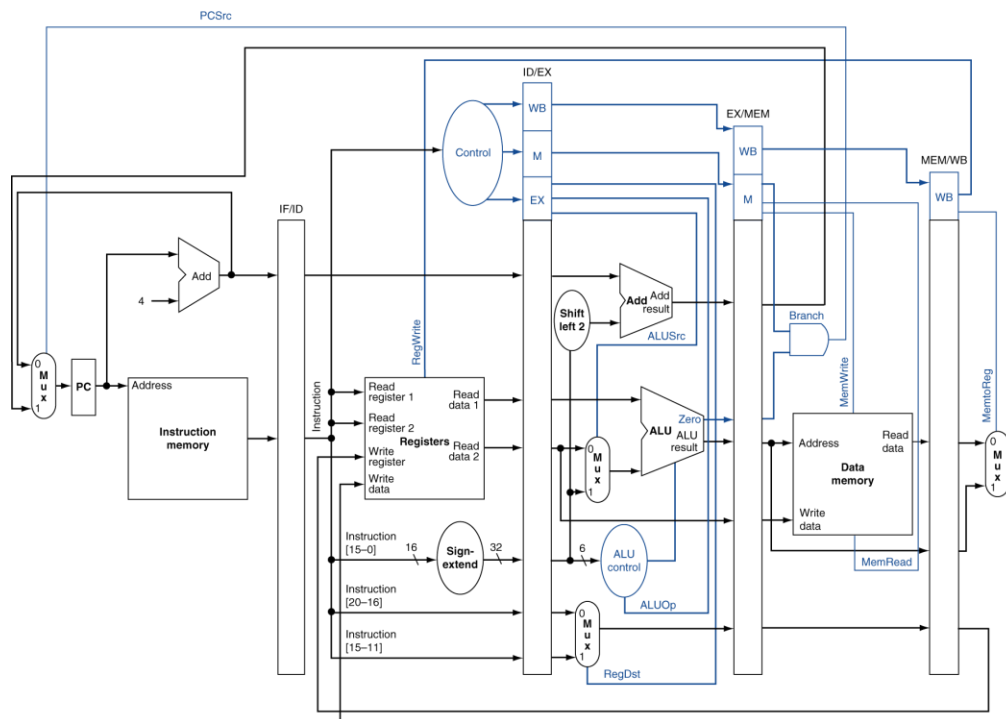

Figure 2. Datapath with Pipelined Control
- Each datapath element must be designed from scratch. That is, modifying the multi-cycle MIPS should be done utilizing your groups code only. Intellectual Property (IP) or other publicly-available code for the datapath and control **cannot** be used for this project.
- The base datapath is shown in Figure 2 for your reference. However, it is also available in your textbook and lecture slides. You will modify this datapath in order to extend the instruction subset.